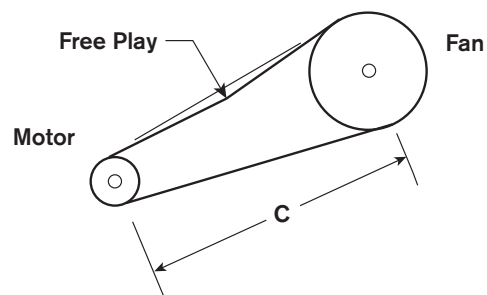

FIGURE 1 Sheave alignment and free play
**IMPORTANT:** Make sure the motor and fan sheaves are aligned and parallel with each other (belt manufacturer recommends alignment within 0.5°). Using a long straight edge, lay the straight edge against the faces of the sheaves. If each sheave contacts the straight edge in two places the sheaves are lined up. See Figure 1.